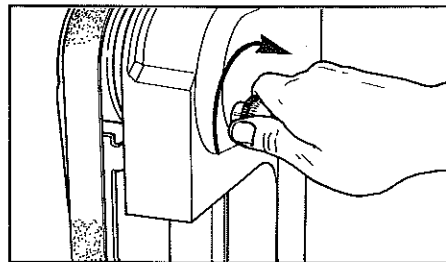

Figure 9. Adjust the tracking if the belt is "riding" off center of platen.
12. Check belt tracking. Turn on the power momentarily (no more than one second). Check to see that belt rides parallel to and down the middle of the platen; and that the belt is riding against the face of the platen. If the belt is "riding" to left of center on the platen and wheel, turn the tracking control knob (24) clockwise (Figure 9), or if the belt is "riding" too far right on the platen, turn the tracking control knob counterclockwise.